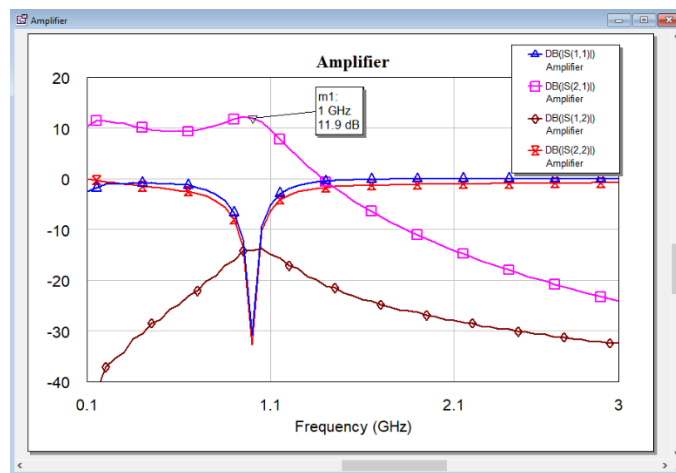

Fig. 11 Resulting parameters of the final amplifier.
- Create a new graph of rectangular type and add the measurements from the Amplifier schematic $\text{dB}(\text{abs}(S_{11}))$, $\text{dB}(\text{abs}(S_{21}))$, $\text{dB}(\text{abs}(S_{12}))$ and $\text{dB}(\text{abs}(S_{22}))$. Perform an analysis of the resulting amplifier. Results corresponding to our example can be seen in Fig. 11.